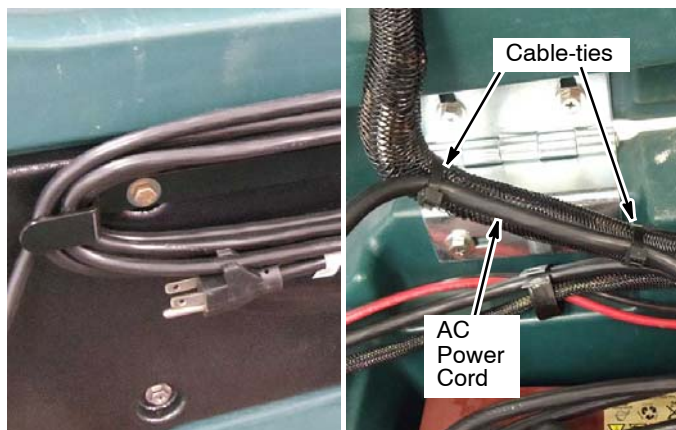

FIG. 28
14. Re-install the vacuum motor, cover and cord hook (FIG. 28). Secure the AC power cord to the machine harness with two cable-ties as shown.